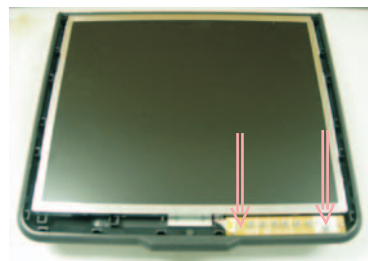

Fig.9
- Remove the two screws as shown in Fig.9 ,then remove the Control board